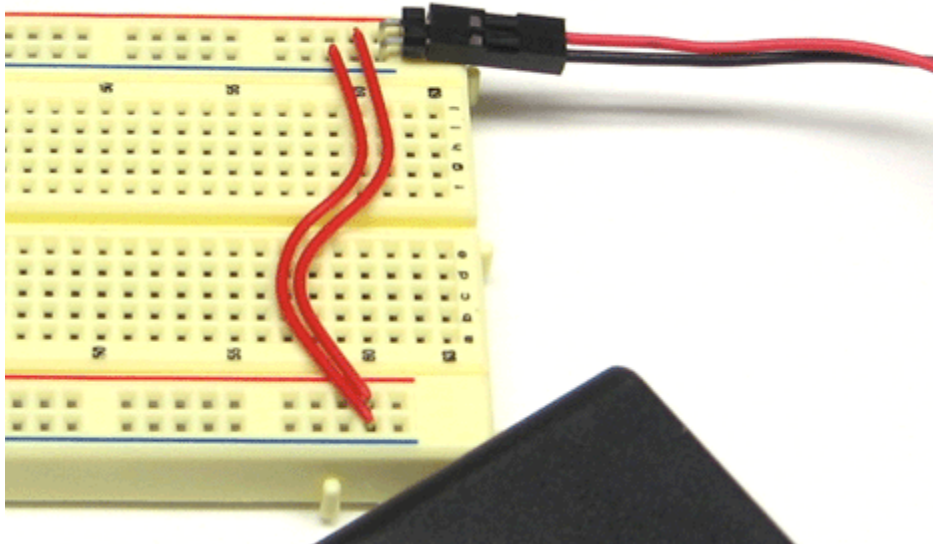

Figure 10B. Jump wires connecting power and ground from one side of the breadboard to the other.
4. Insert the two-prong connector in the holes next to hole J61, as shown in Figure 10B. **Align the red and black wires EXACTLY as shown.** *NOTE: If the red wire is on the wrong side, then the connector may be upside-down. Pull it off, turn it over, and reconnect it to the wires.*
5. Connect the red line holes and the blue line holes on each side of the board by inserting two long red jump wires, as shown in Figure 10B. *NOTE: You will need to bend or trim the wires to get them to fit.*